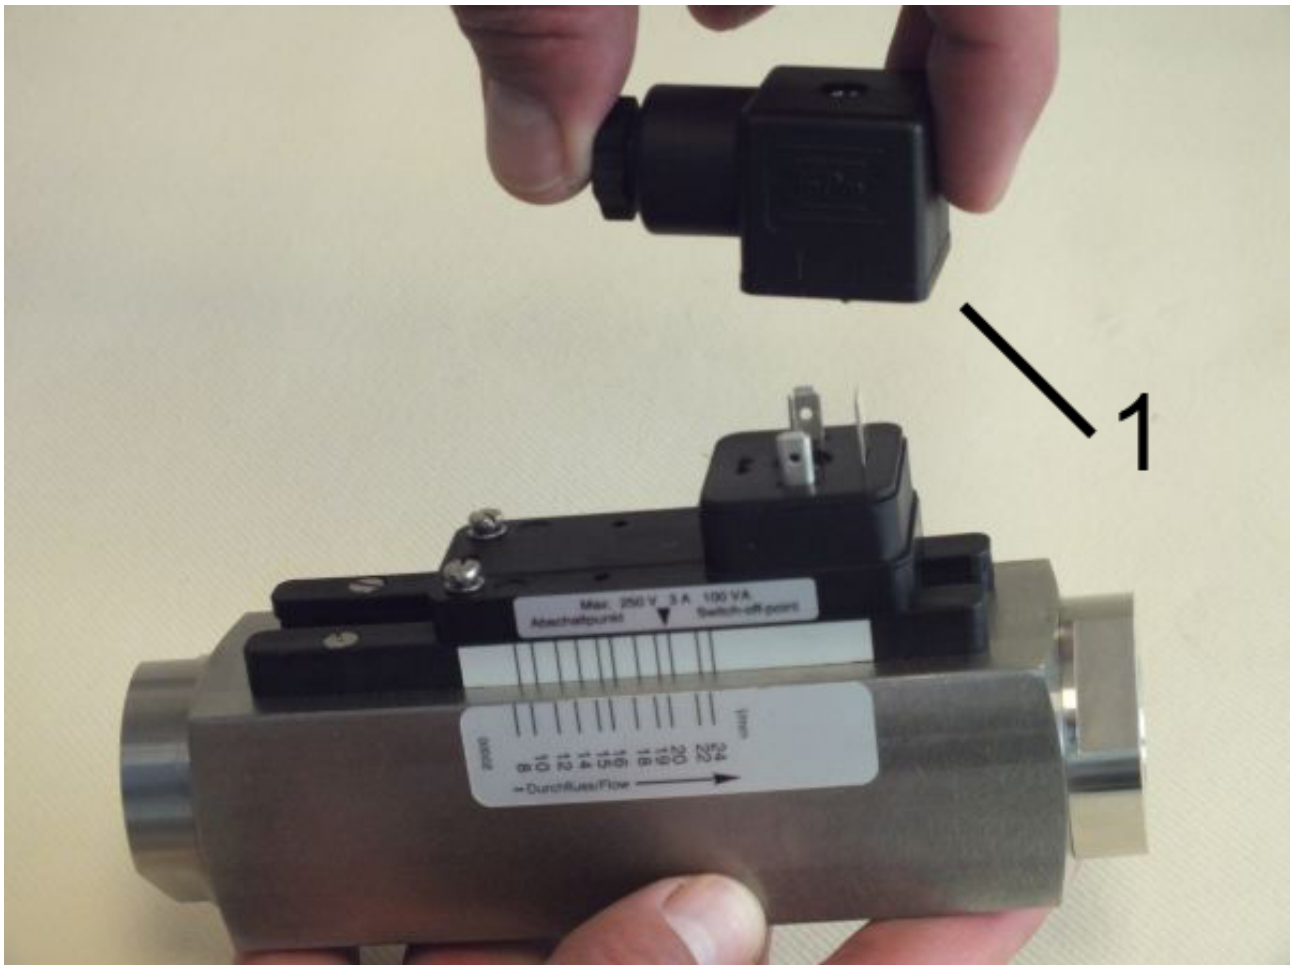

Fig. 79: Remove female socket
2. ➤ Remove the female socket and gasket (Fig. 79/1) by pulling upwards.